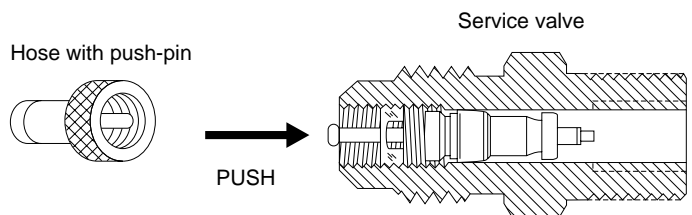

Fig. 55
* The service port on the wide tube service valve uses a Schrader core valve to access the refrigerant system. Therefore, be sure to use a hose connector which has a push-pin inside. (Fig. 55)